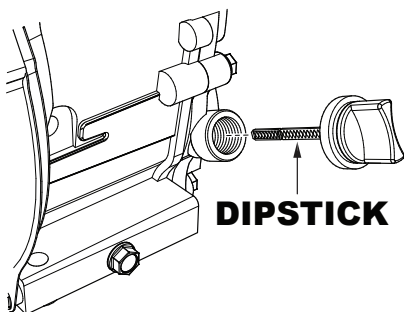

Figure 12. Engine Oil Dipstick
2. Remove the oil dipstick (Figure 12) from the engine oil filler hole and wipe it clean.